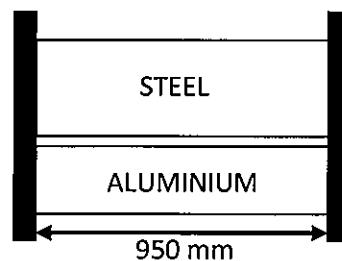

Figure 1 (c)/ Rajah 1 (c)
- CLO1 (c) Figure 1(c) below shows a compound bar rigidly mounted at both end. Cross sectional area for steel and aluminium bar are 400 mm^2 and 335 mm^2 . If the temperature is dropped by 23°C . Calculate: